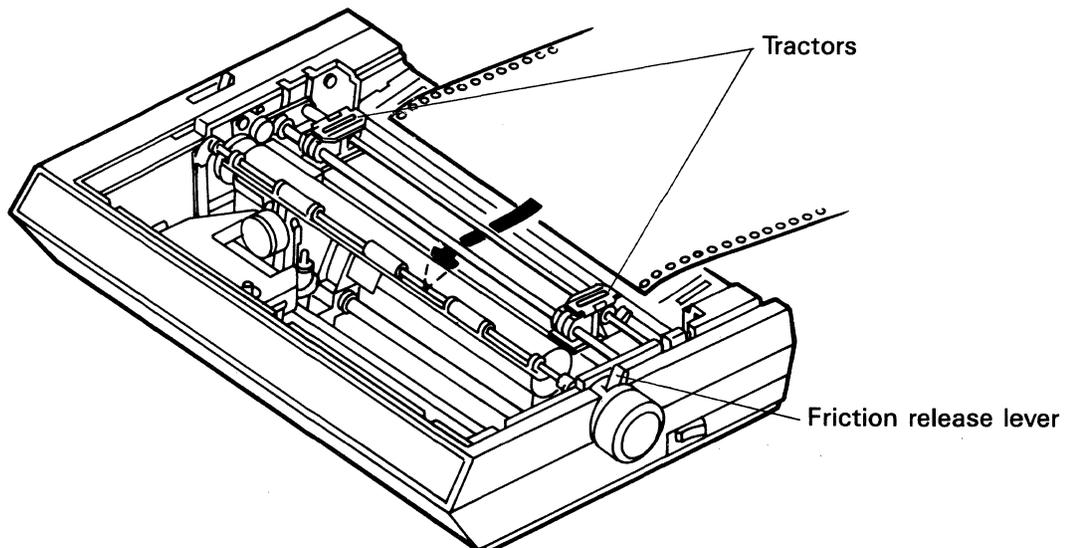

Fig. 2-26
2.6.3.6 Set the friction release lever to the friction position and insert the paper as indicated by the arrow in Fig. 2-26.